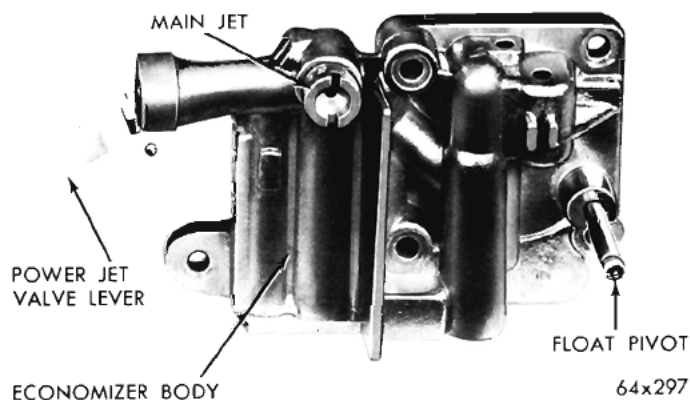

Fig. 9—Economizer Body Assembly
(11) Using Tool C-3748, remove the main jet from the economizer body. See (Fig. 9).
(12) Using a suitable tool, remove the pump lever retaining clip. Slide lever off pivot and disengage link from throttle lever.
(7) Install the main jet in the economizer body, using Tool C-3748. Refer to (Fig. 9).